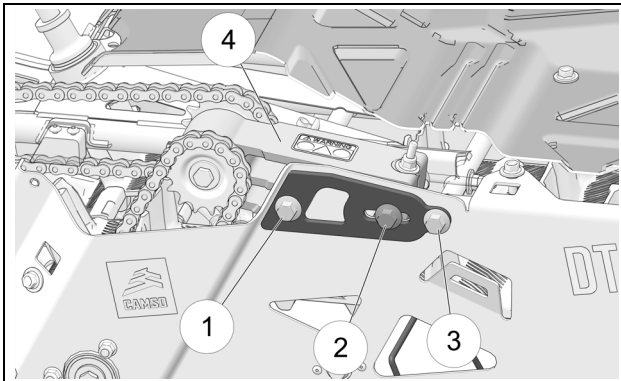

Figure 7
- Loosen assembly bolts (1), (2) and (3) on right side panel to allow the Chain Tensioner (4) to pivot on its axis. See Figure 7.